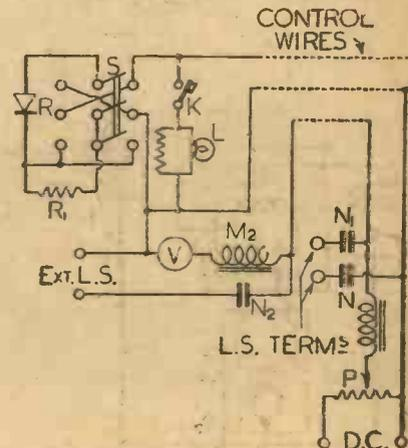

Fig. 4.—Circuit arrangement for tuning with a two-speed relay.
1. *Two-speed Tuning*—This may be achieved by another small relay D, as shown in Fig. 4. For slow speed tuning a resistance R₁ is placed in circuit with the rectifier to reduce the current, so that relay D will not operate but B will. A resistance R₂ is included in the motor circuit by the relay D, and the motor runs slowly. The resistance R₁ is short-circuited by extra contacts on switch S when this is placed to "quick tuning." This causes relay D to operate and cut out the resistance R₂ in the motor circuit, thus allowing the motor to run quickly.